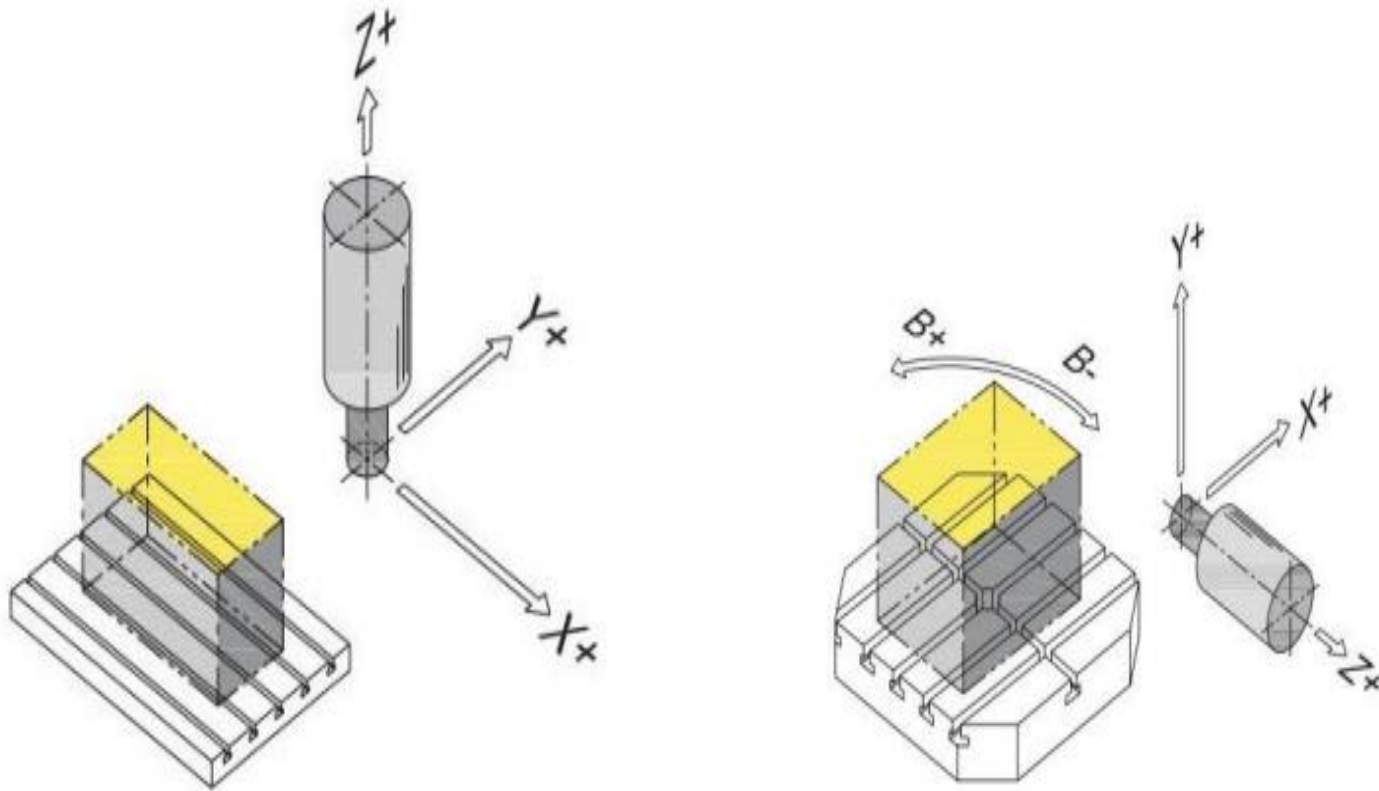

Figure 7.1: Schematic illustration of (a) CNC vertical machining center and (b) CNC horizontal machining center
- Machine axes Milling machines and machining centers have at least three axes X, Y and Z as shown in Figure 7.1. The machines become more flexible if they have the fourth axis, usually an indexing or a rotary axis (the A axis for vertical models or the B axis for horizontal models). Even higher level of flexibility can be found on machines with five or more axes